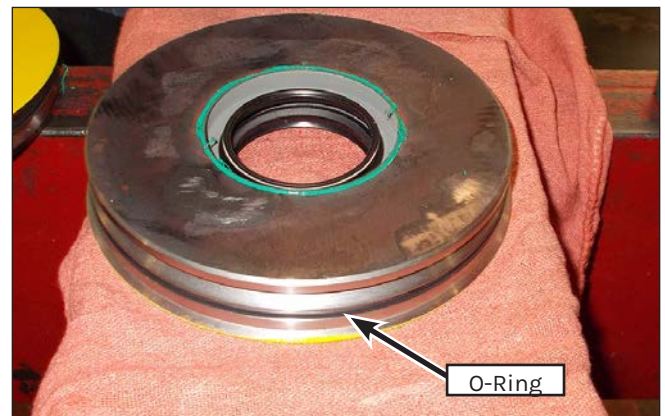

Figure 152: O-Ring Installation.
4. Install a new O-ring (Figure 152) onto the seal plate. Lubricate the O-ring with O-ring lubricant.